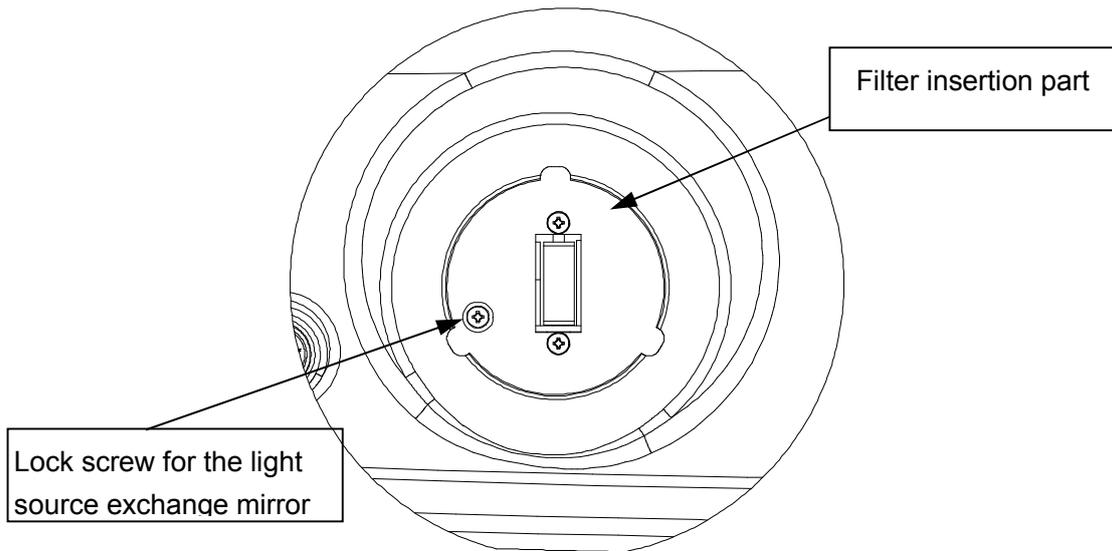

Figure 1.4 Filter insertion part
- (3) The lock screw can be seen on the left side of the bottom of the filter insertion part (Fig. 1.4). Turn this screw counterclockwise using a Phillips-head screwdriver and raise it by about 1 cm. This operation makes the light source exchange mirror active.
- (4) Upon completion of the unlocking, re-install the lid.